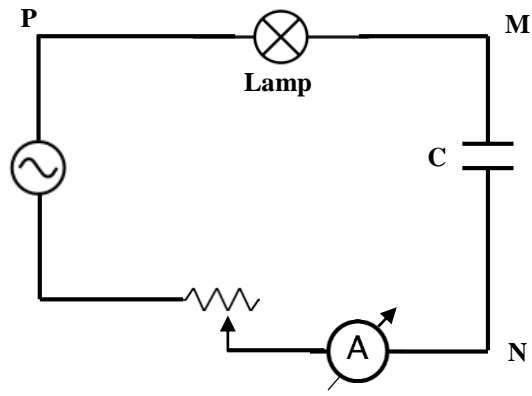

Figure 5.2.
1. Set the circuit up shown in Fig.5.2. **Wait the instructor to connect your circuit to the mains!**